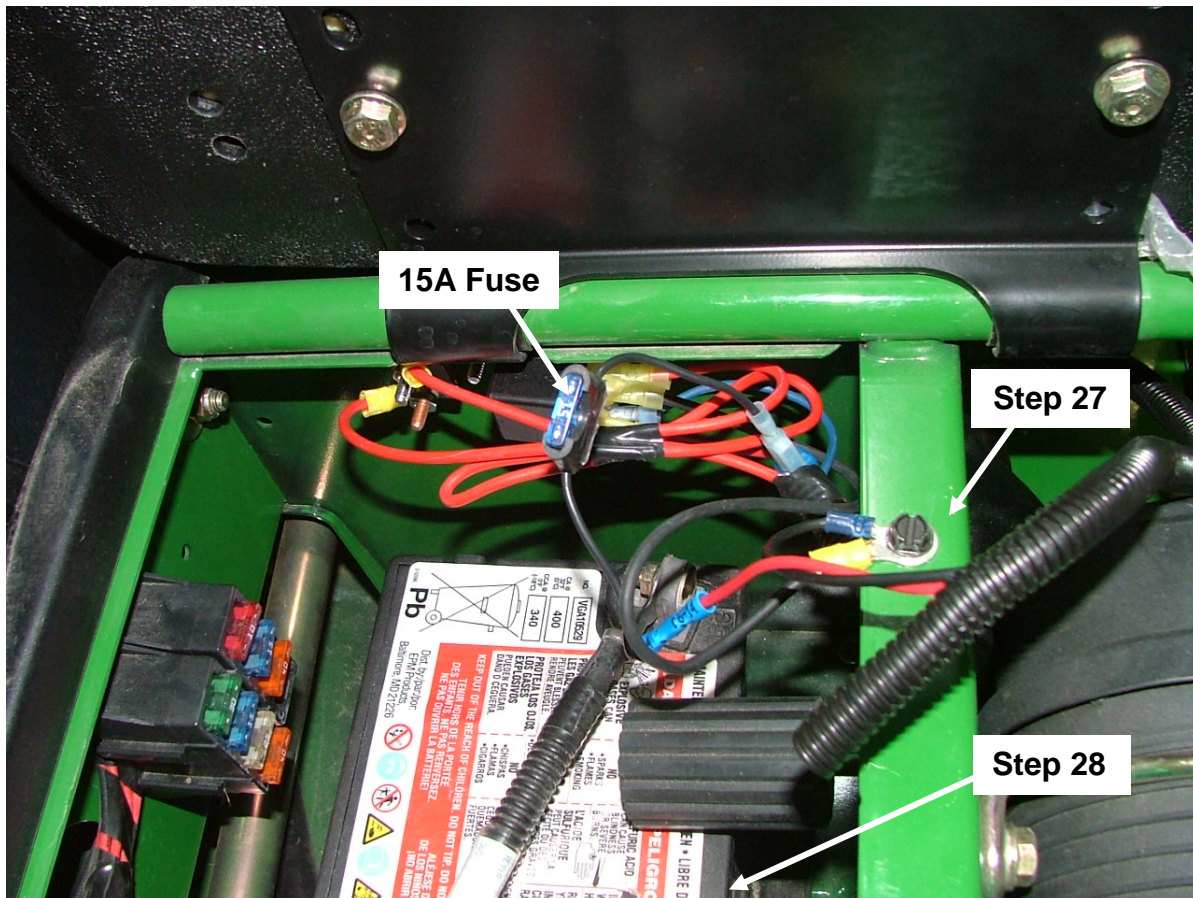

Figure 5
27. Secure the black wire with terminal eye end to a grounding (-12VDC) location. See Figure 5.